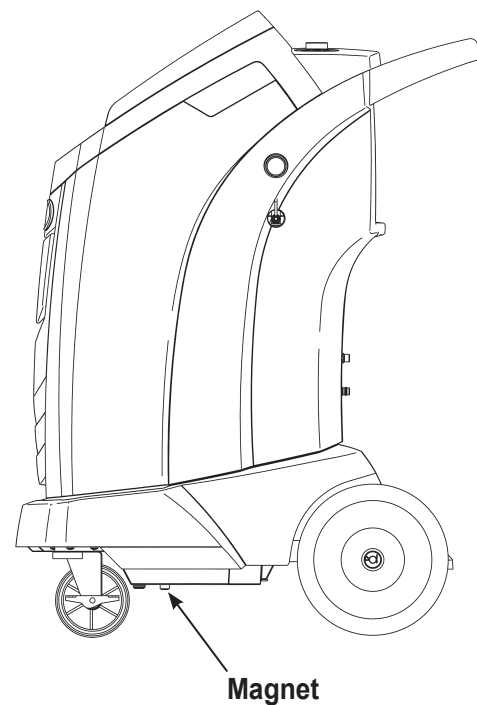

Figure 20
2. Refer to Figure 20, and verify the magnet on the bottom of the machine is clean.